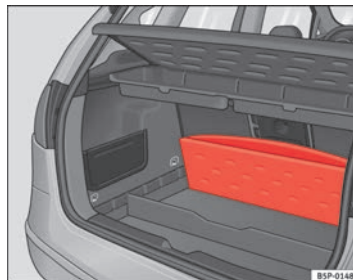

Fig. 105 Foldable luggage compartment cover
- Lift the luggage compartment floor and fold it back all the way ⇒ Fig. 105.